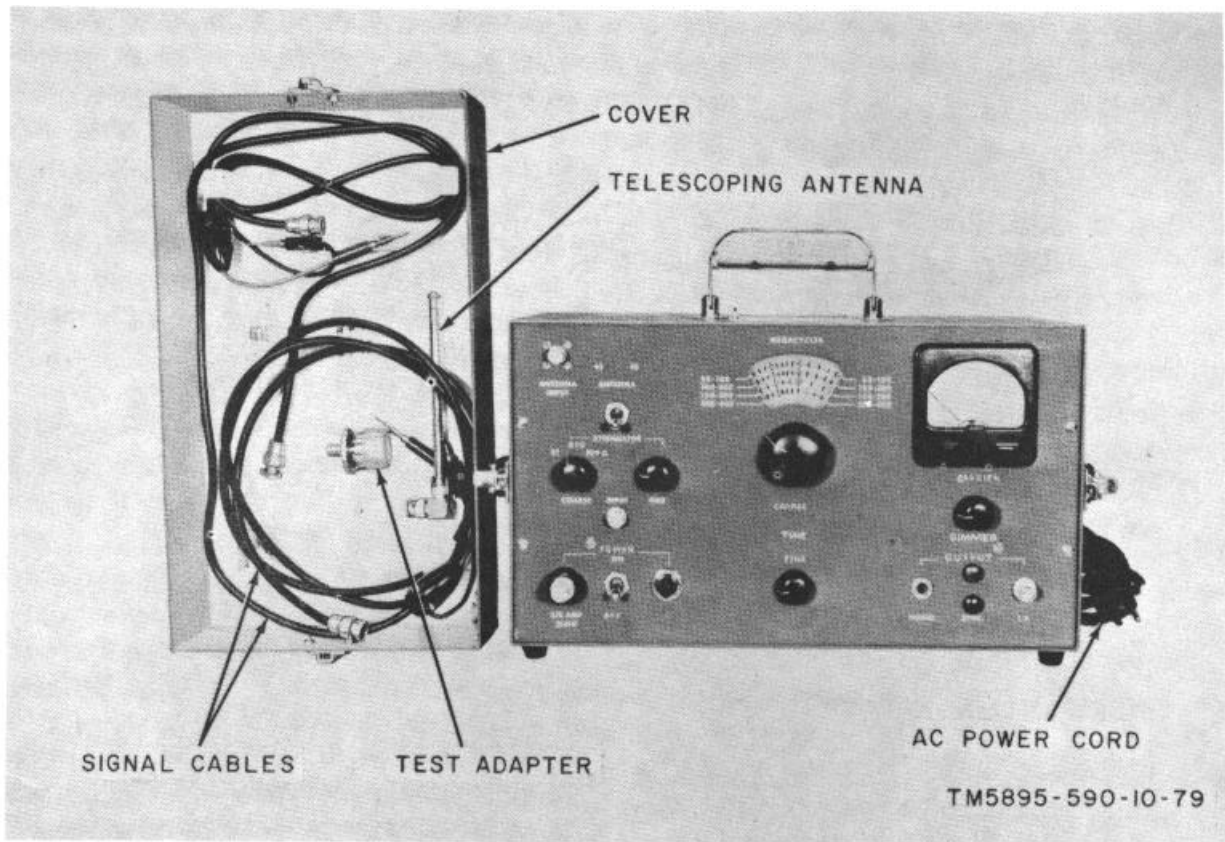

Figure 1-28. Monitor-Converter, Audio Frequency-Radio Frequency ID-1572/FSQ-75(V).
s. Monitor-Converter, Audio Frequency-Radio Frequency ID-1572/FSQ-75(V) (figs. 1-28 and 3-22). The modulation monitor is housed in an aluminum